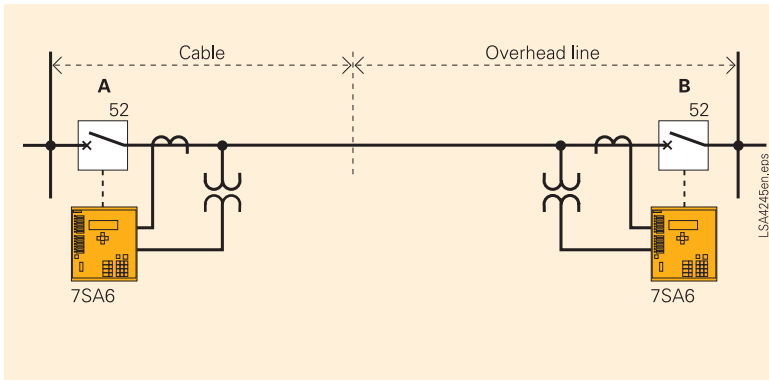

Fig. 2
Stadtwerke Hannover, enercity requested the implementation of 7SA6 distance protection over mixed lines. This application is not limited to a specific plant but can be employed in a variety of applications. Mixed lines means that part of the section to be protected within a grading zone comprises cables and another section consists of overhead lines. The auto-reclosure (AR) function would be appropriate for the overhead line section only. The sections to be protected must be selected accordingly (see Fig. 2).